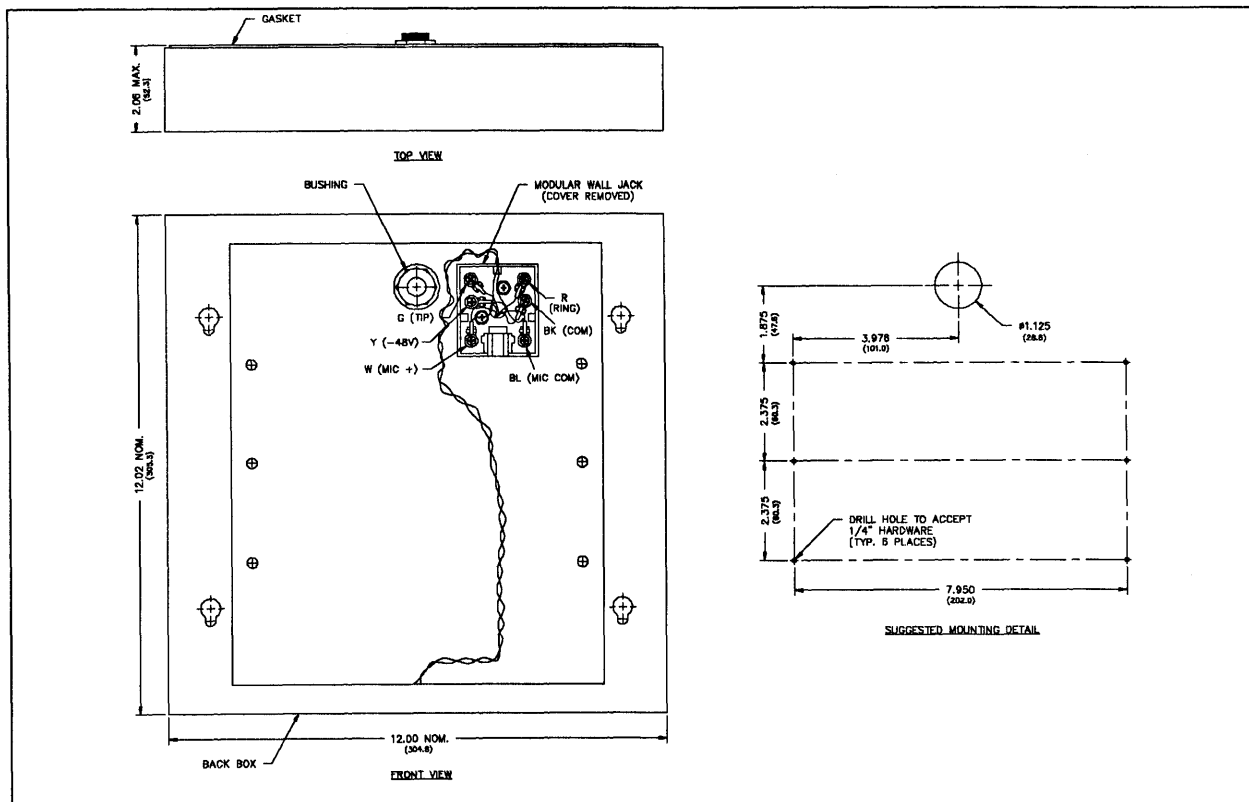

Figure 2. 295W Mounting and Wiring Detail
4. Snap the cover off the modular wall jack. Follow Figure 2: wire incoming Tip wire to the green wire in the modular jack, incoming Ring wire to red in modular jack, (-48V) to yellow, (COM) to black. **DO NOT REMOVE** blue and white wires. Replace the modular wall jack cover.